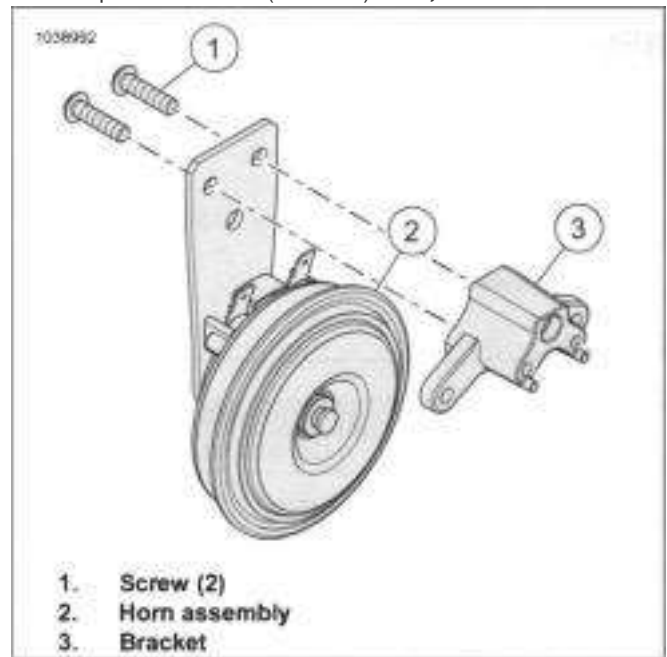

Figure 7-39. Horn Assembly
1. See Figure 7-39. Remove screws (1) and bracket (3).
1. See Figure 7-39. Install screws (1) and bracket (3). Tighten.